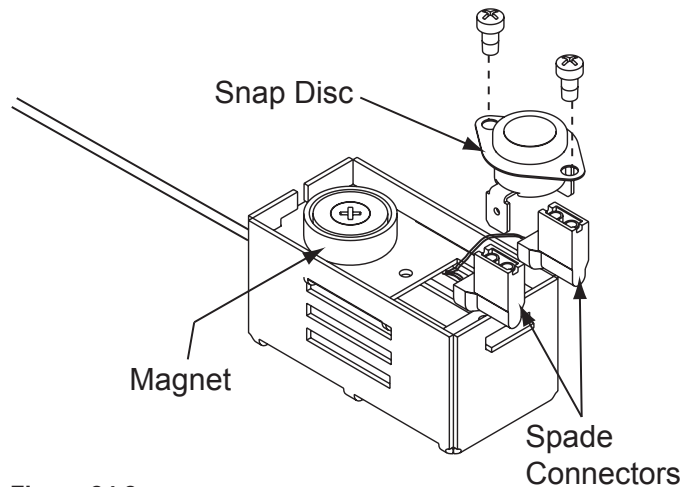

Figure 24.2
3. Pull the snap disc and spade connectors up and out of bracket as shown in **Figure 24.2**.